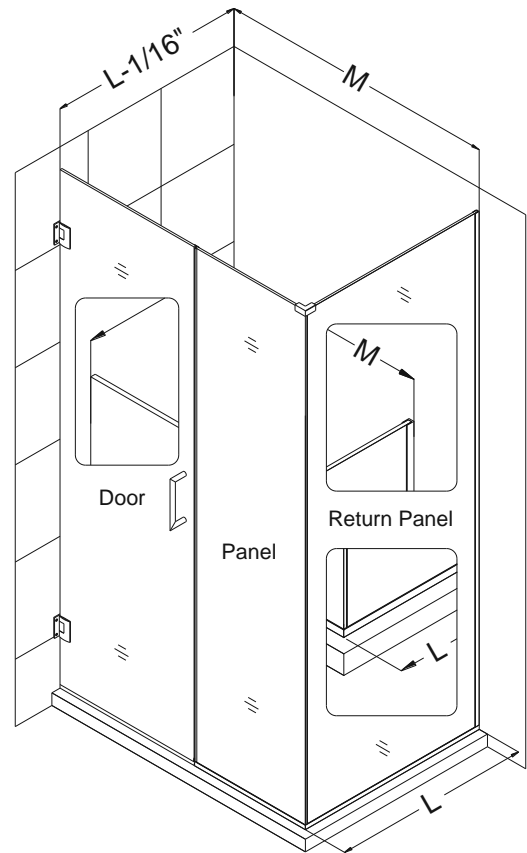

Fig. 1
**NOTE: M and L dimensions are from the finished wall to the outside of the U-channel as shown in Fig. 1.**